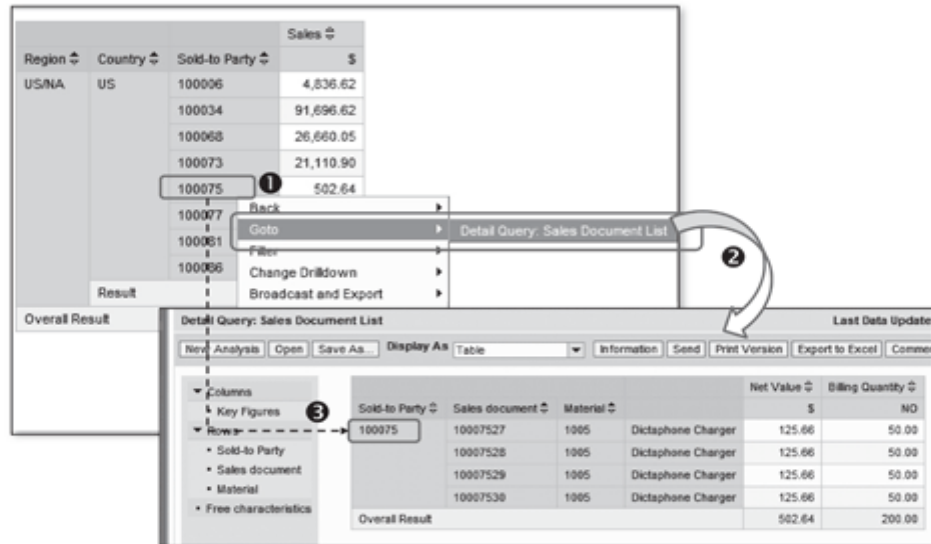

Figure 9.97 Using Report-to-Report Interface (RRI)
Figure 9.97 shows the use of RRI, which has been just defined.
RRI is available for the characteristic value for which it's defined (❶ of Figure 9.97). For this example, you can see in Figure 9.97 that the Goto section in the context menu for customer value 100075 shows RRI for Detail Query: Sales Document List (❷). Select the RRI query, and it will call the receiver query and display the detailed list of all sales documents. As you can see from ❸ of Figure 9.97, the value 100075 for the customer is passed as a parameter from the sender to the receiver. This is based on the field assignments defined for RRI.